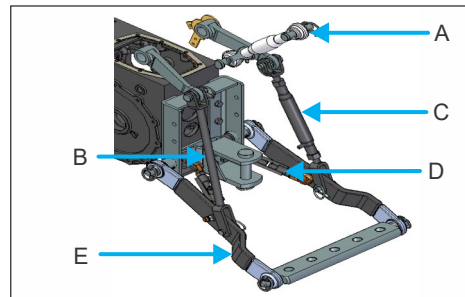

Fig. 4.36
- In Fig. 4.36 , (B) is FIXED LIFT ROD and (C) is the ADJUSTABLE LIFT RODS. It can be adjusted mechanically or Hydraulically, depending on the lifting, to make the lower links level and lined up with each other.
- The LATERAL STABILIZERS CHAIN (D) can be set to reduce lateral movement of the lower links if the three-point linkage contacts with graders, rollers, holes, weeder etc.,